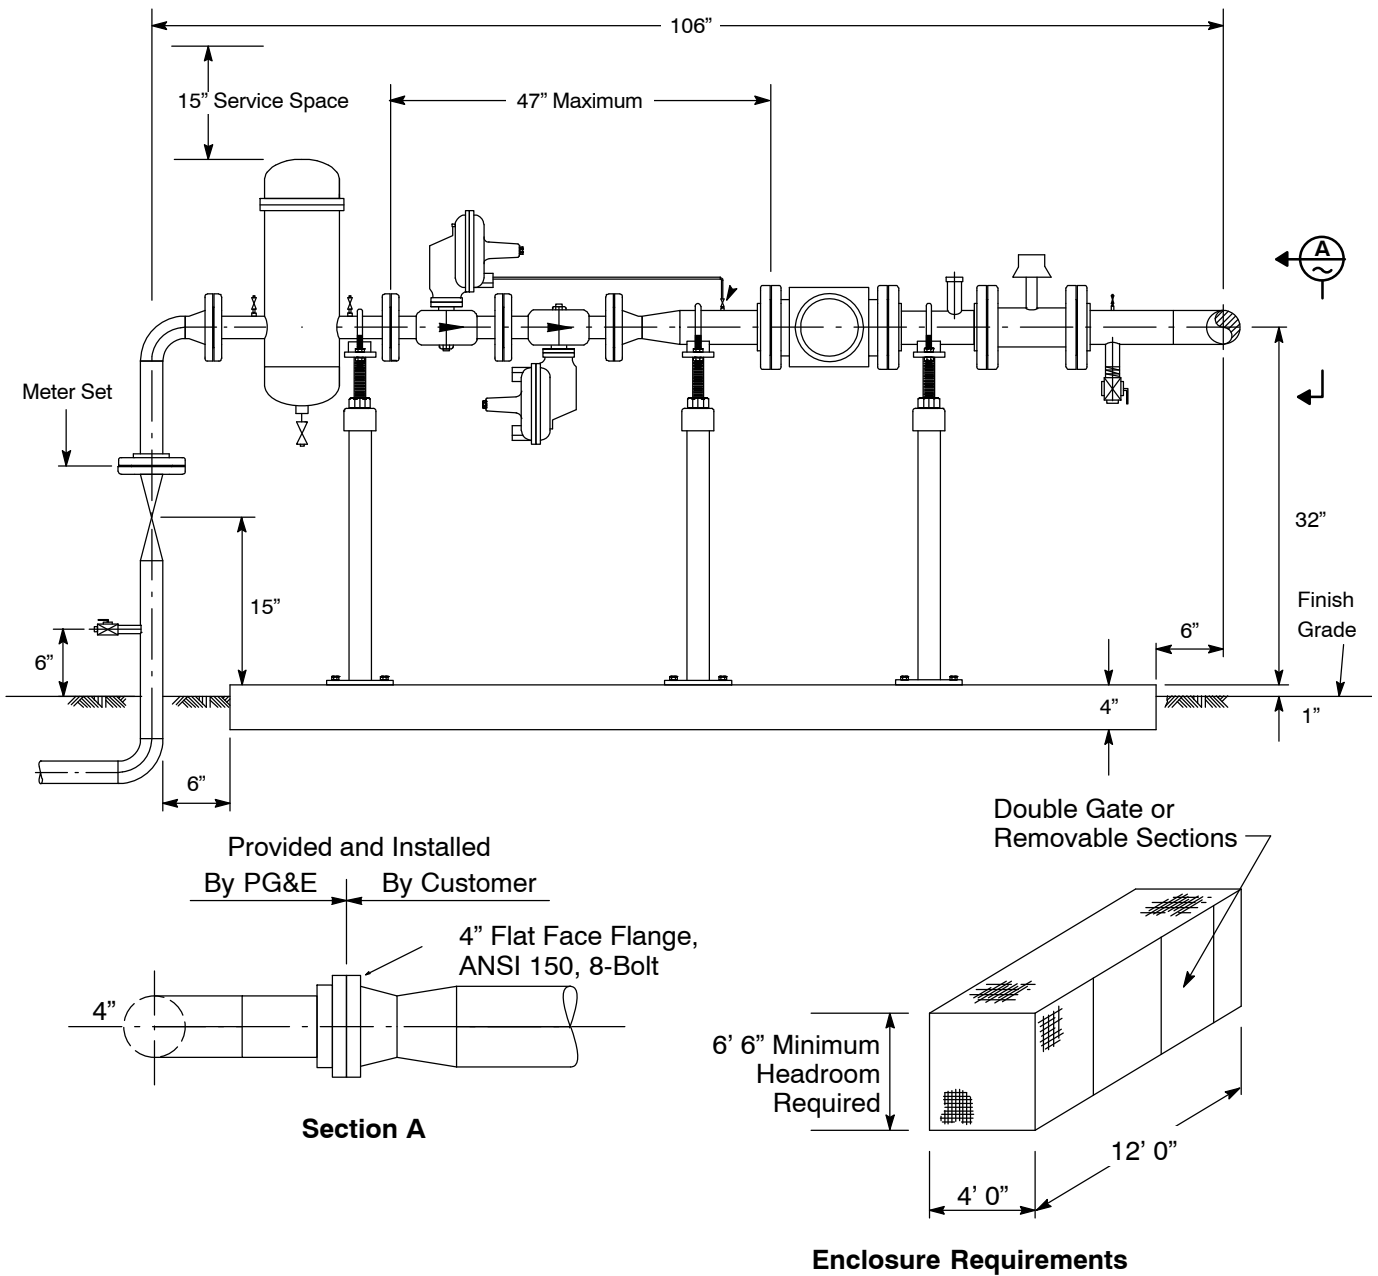

Figure 2-18
7. Figure 2-18 represents a rotary gas meter with 7,001 through 11,000 scfh at an approved delivery pressure.
Notes in reference to Figure 2-18.